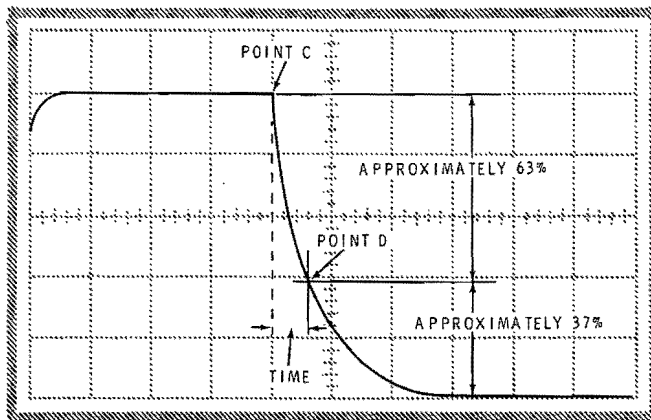

Figure 2-9
5. Refer to Figure 2-9 and adjust the oscilloscope's HORIZ POS control so the trace starts on the left. Then adjust the VERT POS, VOLTS/CM, and VARIABLE controls so the entire trace covers exactly 5 centimeters vertically. The FREQ control on the Trainer should be adjusted so point C is placed exactly as shown in Figure 2-9.
6. Measure the time required for the trace to fall from point C to point D as shown in Figure 2-9. D is the point at which the waveform falls to 37% of its maximum amplitude.
8. Set the oscilloscope's TIME/CM switch to 20 microseconds/centimeter and adjust the FREQ control on the Experimenter so point C is placed exactly as shown in Figure 2-9. Switch the RANGE switch to HIGH on the Experimenter if necessary to obtain the proper trace. Readjust the VERT POS and vertical VARIABLE control to obtain 5 centimeters of vertical deflection.
9. Measure the time required for the trace to fall from point C to point D as shown in Figure 2-9. Turn off the Trainer.